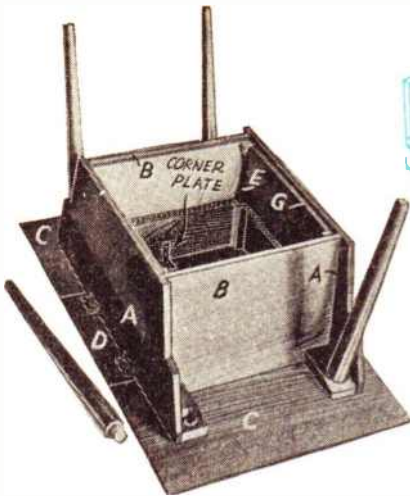

Fig. 2
Pieces (C) of the top can next be glued in position, and screws inserted through the holes provided in the leg blocks. Small brass corner plates are also screwed on the inside to pieces (B) and (C) as shown in Fig. 2.